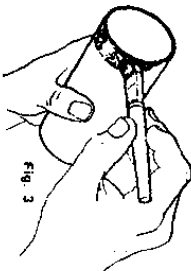

Fig. 3
4. Immediately after cleaning, apply flux to the mating surfaces (Fig. 3 and 4). It should be noted that joints made with copper to copper do not require flux when using CP rods.